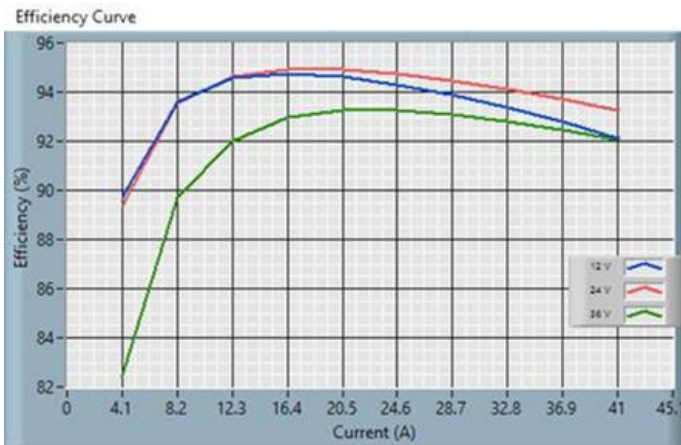

**Fig. 2:** Test setup for measuring input reflected ripple currents  $i_c$  and  $i_s$ .
**Fig. 21:** Input reflected ripple current,  $i_c$  (500 mA/mV), measured at input terminals at full rated load current at VIN = 24V. Refer to Fig. 2 for test setup. Time: 2 μs/div. RMS input ripple current is 1.235\*500mA = 617.5mA.
**Fig. 27:** Input reflected ripple current,  $i_c$  (500 mA/mV), measured at input terminals at full rated load current at VIN = 24V. Refer to Fig. 2 for test setup. Time: 2 μs/div. RMS input ripple current is 1.359\*500mA = 679.5mA.
**Fig. 33:** Input reflected ripple current,  $i_C$  (500 mA/mV), measured at input terminals at full rated load current at VIN = 24V. Refer to Fig. 2 for test setup. Time: 2  $\mu$ s/div. RMS input ripple current is 1.098\*500mA = 549mA.